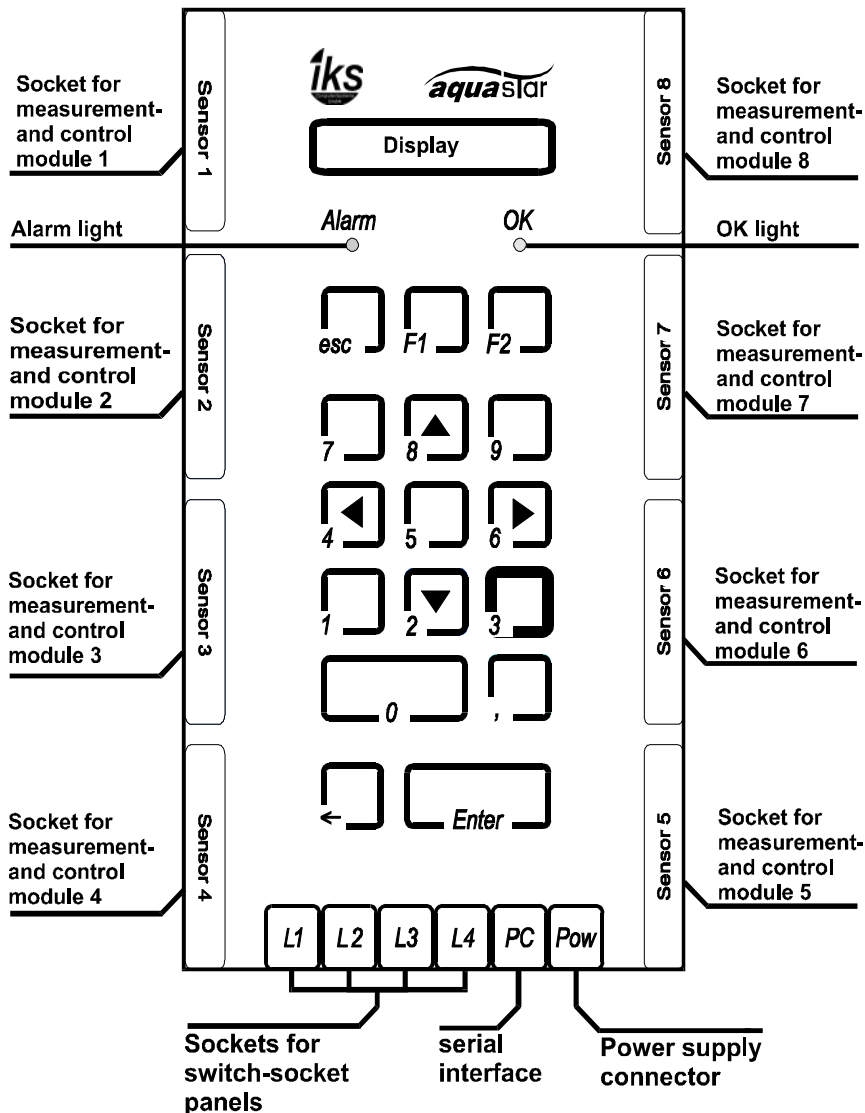
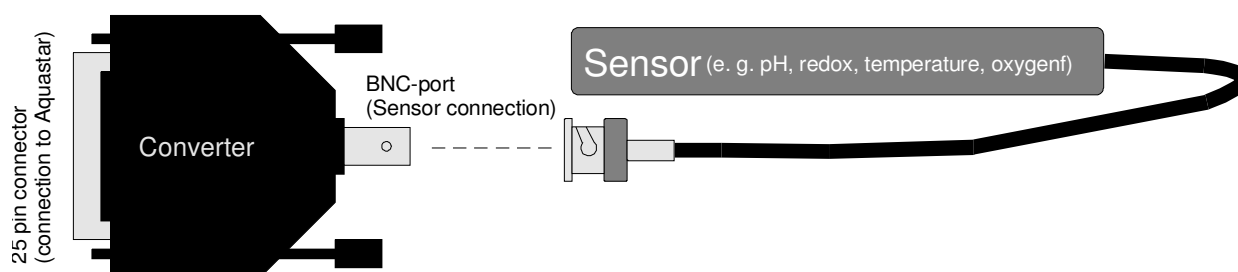

Fig. 1
Fig. 3: Measurement- and control module
With the help of a picture (Fig.1), **Section 3** introduces the *iks aquastar* and explains what's included in the package. Once you've read this, you will know where to connect the sensor modules, the switch-socket panel, the power supply and the PC.
#### 3.1 Operating elements (Fig. 1)
- a measurement converter (see Fig. 3)
- a measurement converter (Fig. 3)
As you can see from the diagram (Fig. 1) in Section 3, the *iks aquastar* has eight sockets for measurement- and control modules. It's up to you which module you connect to which socket. Please observe, however, that you must, at all costs, **turn off the power supply** when connecting and disconnecting a module to avoid the possibility of causing damage. A measurement- and control module comprises a sensor (e.g. a temperature sensor, a pH electrode etc.) and a converter (Fig.3) contained within a black housing (SUB-D). This converter has on one side a BNC port for connecting the sensor and on the other, a 25-pin SUB-D port for connecting the *iks aquastar*. Level- and conductivity sensors are directly and securely connected to the 25-pin plug. Now you can connect **the modules (power supply off?)**. Their asymmetrical form ensures that the plugs are fitted correctly into the ports. Don't forget to connect the appropriate sensor to the converter. After you have connected a module we advise you to tighten the two securing screws (on the black plug-housing) to prevent the module being inadvertently pulled out.
As shown in Fig. 1, you can connect up to four switch-socket panels to the *iks aquastar* on L1 to L4 (thereby giving you a total of 16 sockets that can be activated individually). These sockets are labelled L1 to L4. The sockets on L1 have been given the numbers 1 to 4, on